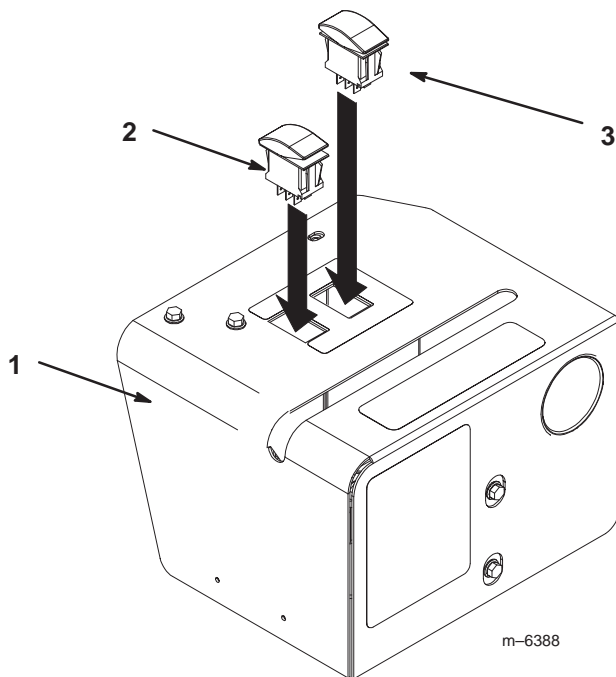

Figure 20
5. Install the two switches into the rectangular holes on the top of the cover (Fig. 20). Install the momentary switch (switch that does not stay in either position when you are not pressing it) into the hole marked with the continuous variable and plus (+) and minus (-) signs.